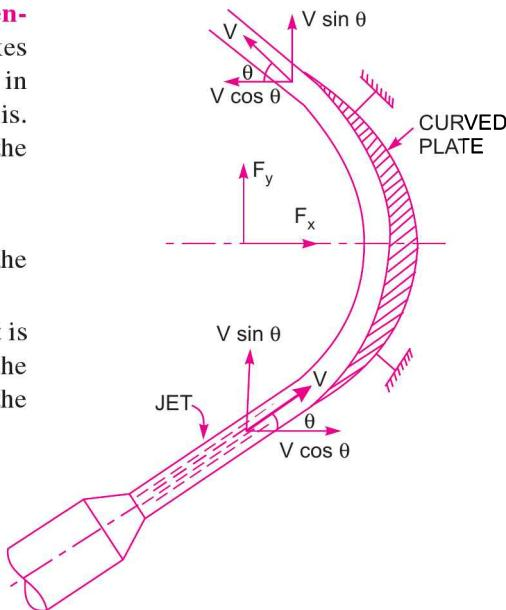

Fig. 17.4 Jet striking curved fixed plate at one end.
-ve sign means that force is acting in the downward direction. In this case the angle of deflection of the jet  $= (180^\circ - \theta)$   $\dots[17.6 \text{ (A)}]$
**(B) Jet strikes the curved plate at one end tangentially when the plate is symmetrical.** Let the jet strikes the curved fixed plate at one end tangentially as shown in Fig. 17.4. Let the curved plate is symmetrical about  $x$ -axis. Then the angle made by the tangents at the two ends of the plate will be same.